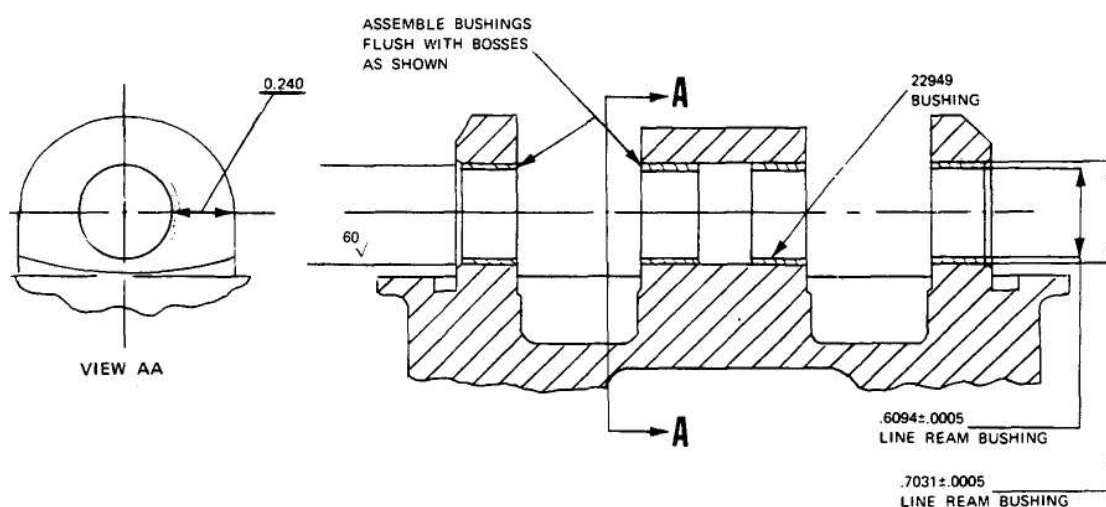

Figure 22. Dimensions of Rocker Shaft Boss Bushings.
- g. If the rocker shaft is excessively loose in the cylinder head support bosses they may be brought back to standard size by boring or reaming in line and installing repair bushings. The center line of the enlarged boss bores must be 9.901-9.911 inches above the cylinder base flange mounting surface, in order that the reamed bushing bores will maintain the same distance. This dimension is important, because variations in spacing of the rocker axis from the camshaft will change the mechanical clearance in deflated valve lifter units and may make them inoperative. The minimum boss wall thickness measured at the edge of the center boss prior to any reaming and bushing must be 0.240 inch. The bore surface must be 60 RMS after reaming. (See Figure 22.)